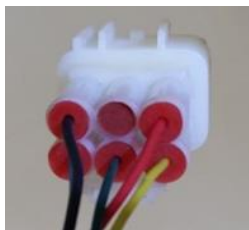

Fig 9.1
C) Connect the red probe with the red wire of the hall connector and the black probe with the black wire of the hall connector as shown in figure 9.1 below in order to confirm the 5 Volt DC output.